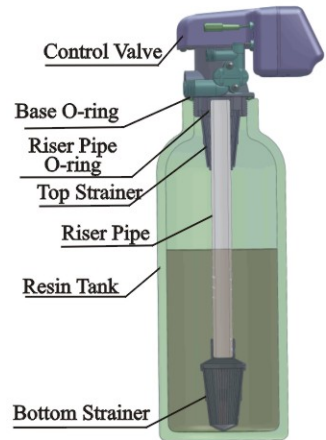

Figure1-1
- ① The filter or softener should be located close to drain.
- ② Ensure the unit is installed in enough space for operating and maintenance.
- ③ Brine tank need to be close to softener.
- ④ The unit should be kept away the heater, and not be exposed outdoor. Sunshine or rain will cause the system damage.
- ⑤ Please avoid to install the system in the Acid/Alkaline, Magnetic or strong vibration circumstance, because above factors will cause the system disorder.
- ⑥ Do not install the filter or softener, drain pipeline in circumstance which temperature may drop below 5°C, or above 50°C.
- ⑦ One place is recommended to install the system which causes the minimum loss in case of water leaking.
① Install control valve
a. As the Figure 1-1 shows, select the riser pipe with 26.7mm OD, glue the riser pipe to the bottom strainer and put it into the mineral tank, cut off the exceeding tube out of tank top opening. Plug the riser tube in case of mineral entering.